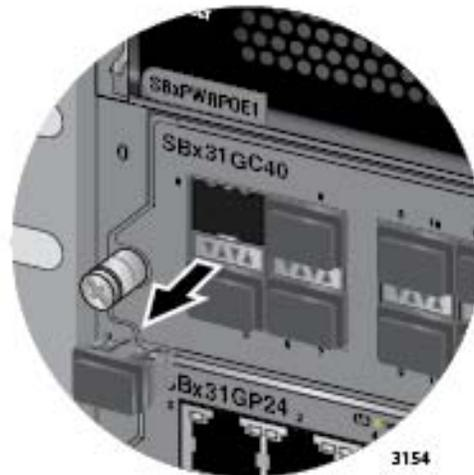

Figure 87. Removing the Dust Cover from a Transceiver Slot on the AT-SBx31GC40 Line Card
2. Remove the dust cover from the slot chosen for the transceiver. Figure 87 shows the dust cover being removed from the first slot on the line card in slot 0 of the chassis.